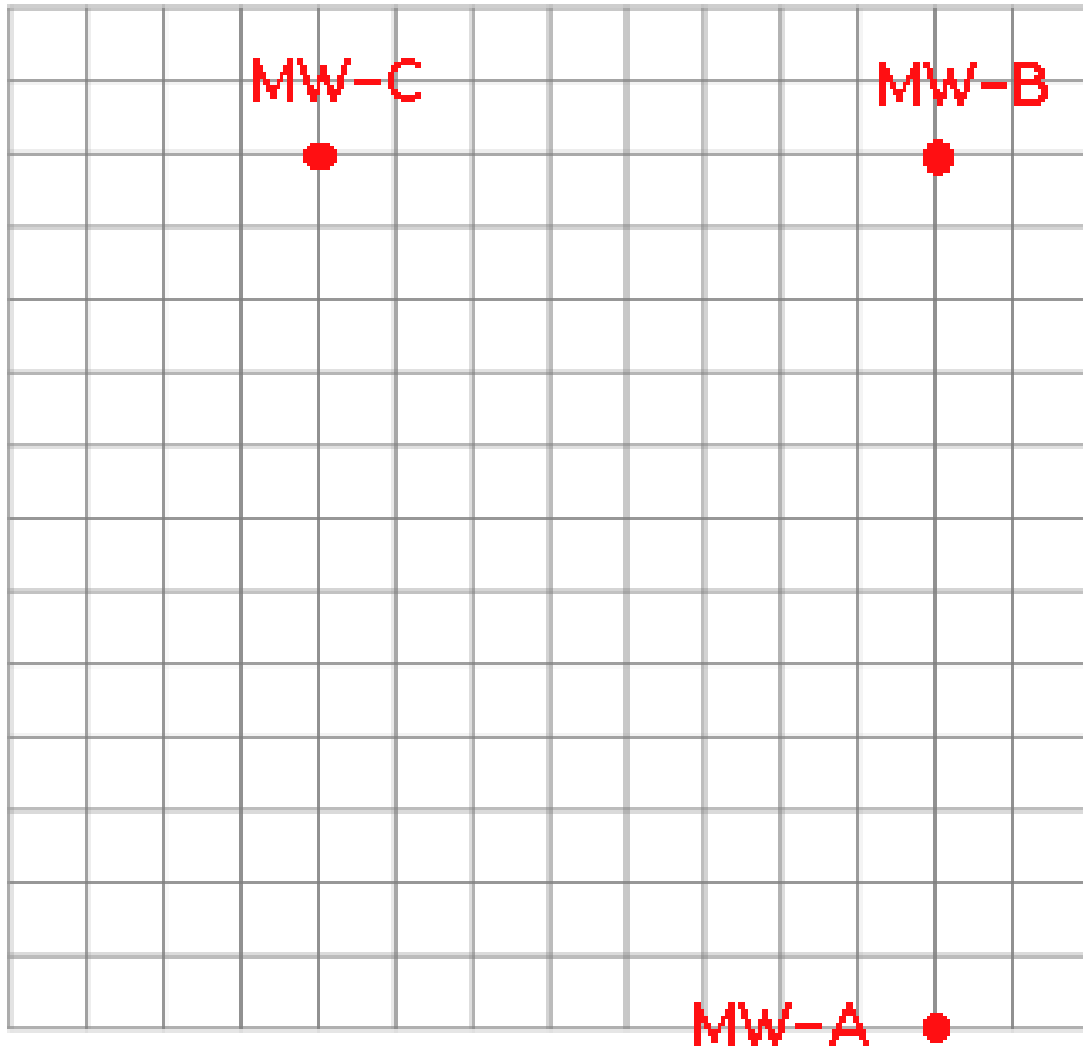

Figure 4: Three-wells monitoring a confined aquifer.
- (f) A sketch of the orientation of the three wells is shown on Figure 4 (Next Page). Write the value of head you computed next to each well on the sketch.